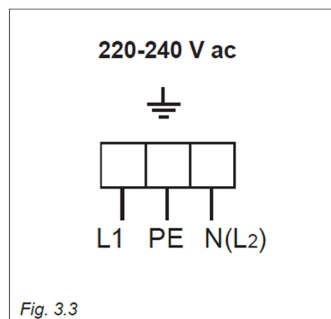

Fig. 3.3
- Connect the cables to the terminal box as shown in Figure 3.3.